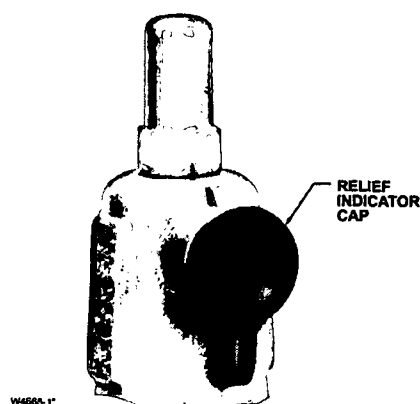

Figure 3. Relief Indicator
- **Relief Operation Indicator**—A rubber cap (figure 3) slipped on the vent assembly pops off when the relief valve opens, indicating the relief valve has opened since the last inspection.
For 627R and 627MR (see figure 3)